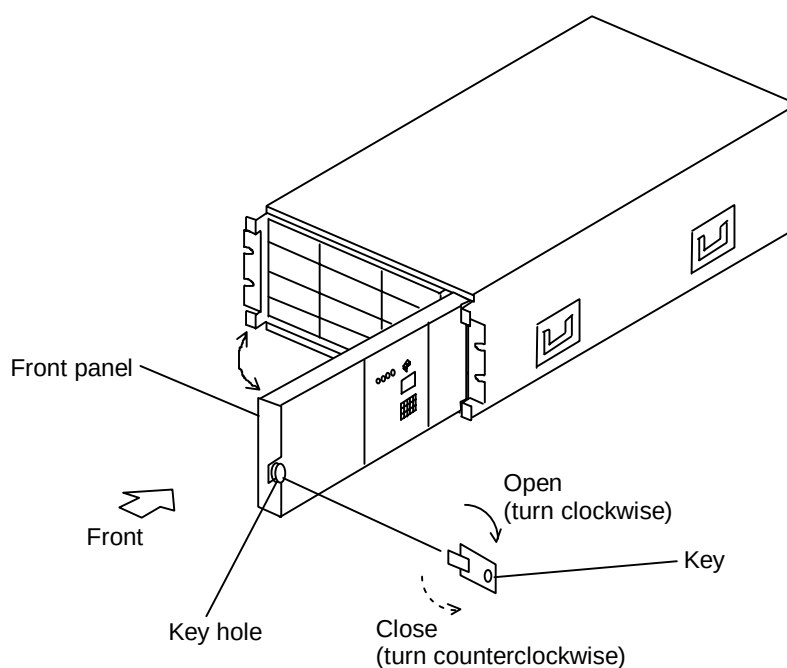

Figure 3.3.1 Opening/Closing the Front Panel
(1) Opening the front panel. (See Figure 3.3.1.)
- ① Remove the front cover.
- ② Insert the key, turn it to the arrow direction (→) and hold the left of the front panel to open to the right.
(2) Closing the front panel. (See Figure 3.3.1.)
- ① Close the front panel.
- ② Turn the key to the arrow direction (↶) and secure the front panel.
- ③ Attach the front cover.